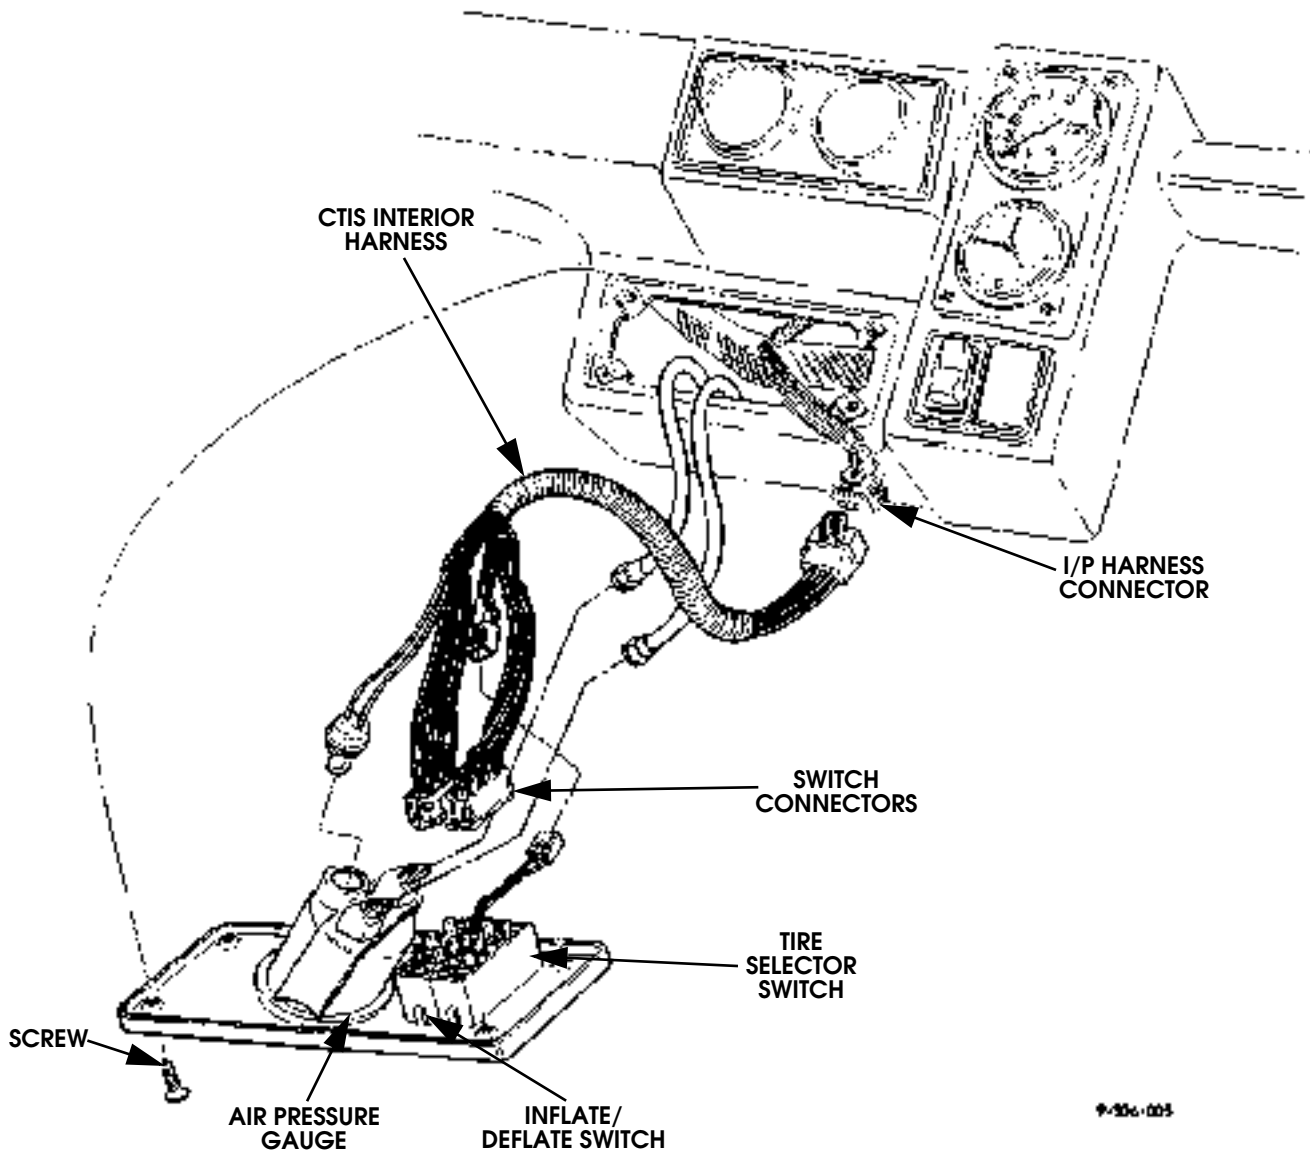

Figure 6-60: CTIS Interior Harness Appearance
2. Disconnect connector from inflate/deflate and tire selector switches (Figure 6-60).
1. Position interior harness in approximate mounting location and connect harness connector to I/P harness connector (Figure 6-60).